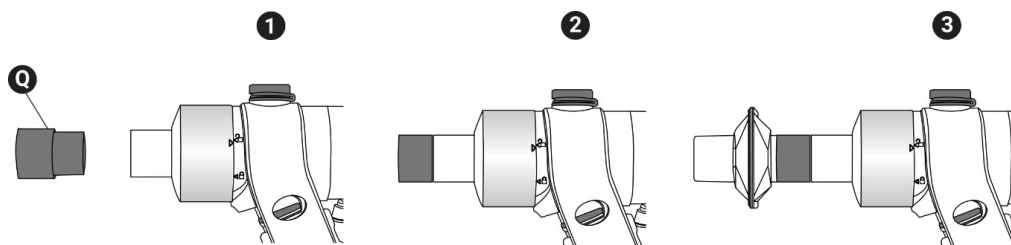

Figure 4: Fitting MIP/MEP Adaptor
8. If a Maximal Inspiratory Pressure (MIP) or Maximal Expiratory Pressure (MEP) test are performed, a MIP/ MEP Adaptor must first be attached to Patient Valve, with a BVF then attached to the other end of MIP/ MEP Adaptor (Figure 4).
Q	MIP/MEP Adaptor (Figure 4)
13. If a Maximal Inspiratory Pressure (MIP) or Maximal Expiratory Pressure (MEP) test are performed, MIP/MEP Adaptor (Q) must be attached to the Patient Valve, with a BVF then attached to the other end of MIP/MEP Adaptor (Figure 4).